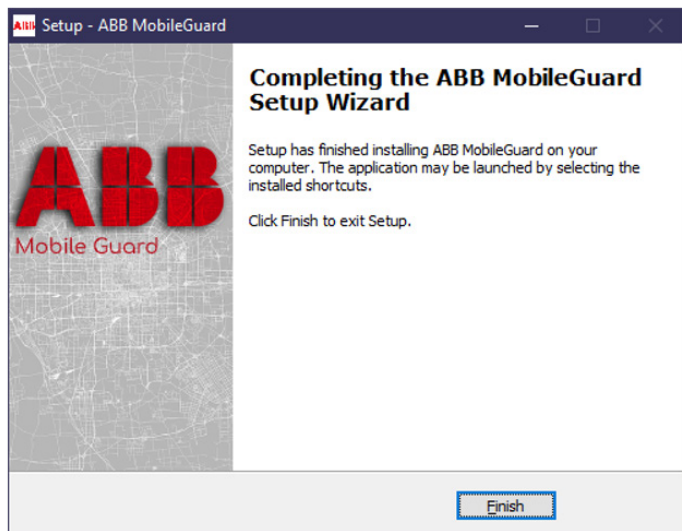

Figure 5 Installation Complete
- 6 When installation is complete, the following screen appears (see Figure 5): Click **Finish**.